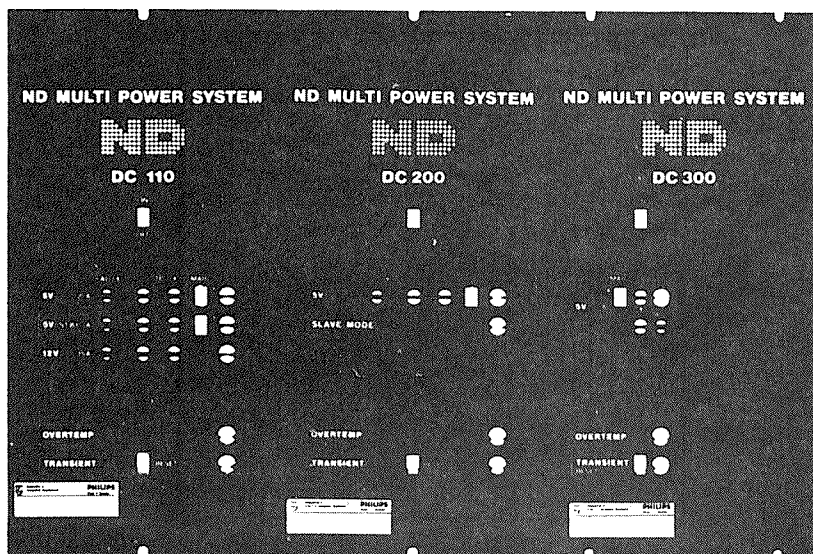

Figure 6. Switches and LEDs on the Power Supply Modules
For more information (switches, LEDs etc.), see the description on figure 6.
**Switches, LEDs etc** This is a short description of the switches, LEDs etc. found on the front of the modules (see fig 6):